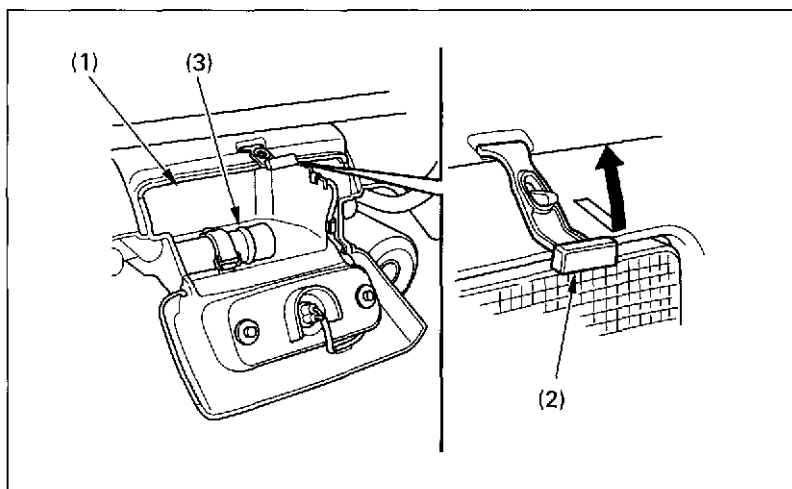

Fig. 2-25 (1) Storage compartment
The storage compartment (Fig. 2-25) is below the rear cargo rack. To open the compartment, unhook the rubber strap (2). The tool kit (3) should be stored in the storage compartment.